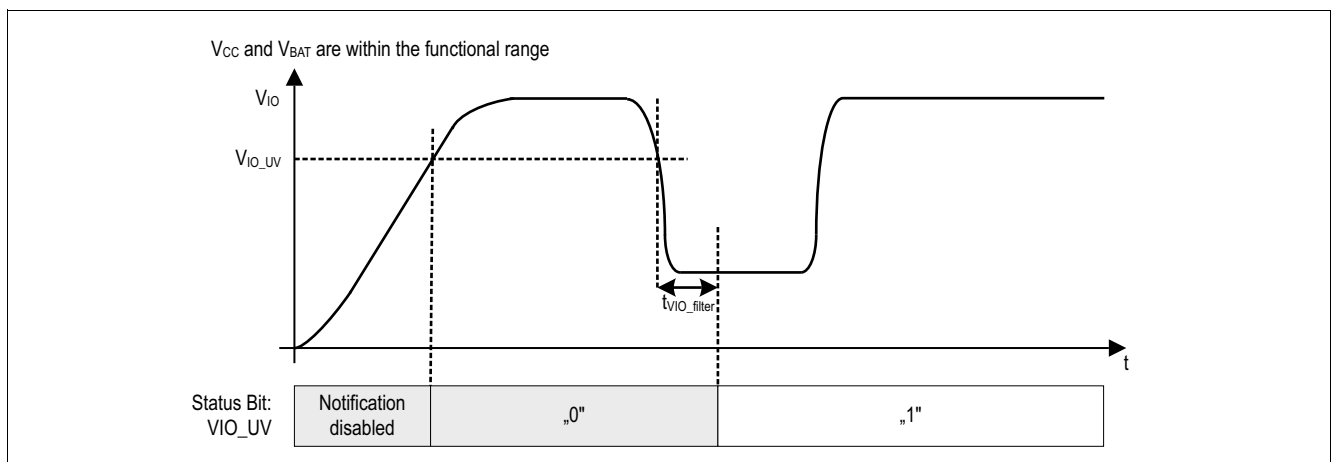

Figure 31 Undervoltage detection  $V_{IO}$  during  $V_{IO}$  supply stabilization period after Power on Reset
- Set the short-term undervoltage bit **VIO\_STUV** to “1” in the SPI register **TRANS\_UV\_STAT**. After the completion of a Power on Reset, the  $V_{IO}$  supply stabilization period must be completed before an undervoltage notification can be recorded in the **VIO\_STUV** bit. After Power on Reset the undervoltage notification is only possible once the  $V_{IO}$  supply has exceeded the threshold  $V_{IO\_UV}$ , that is  $V_{IO} > V_{IO\_UV}$ . **Figure 31** shows this scenario.